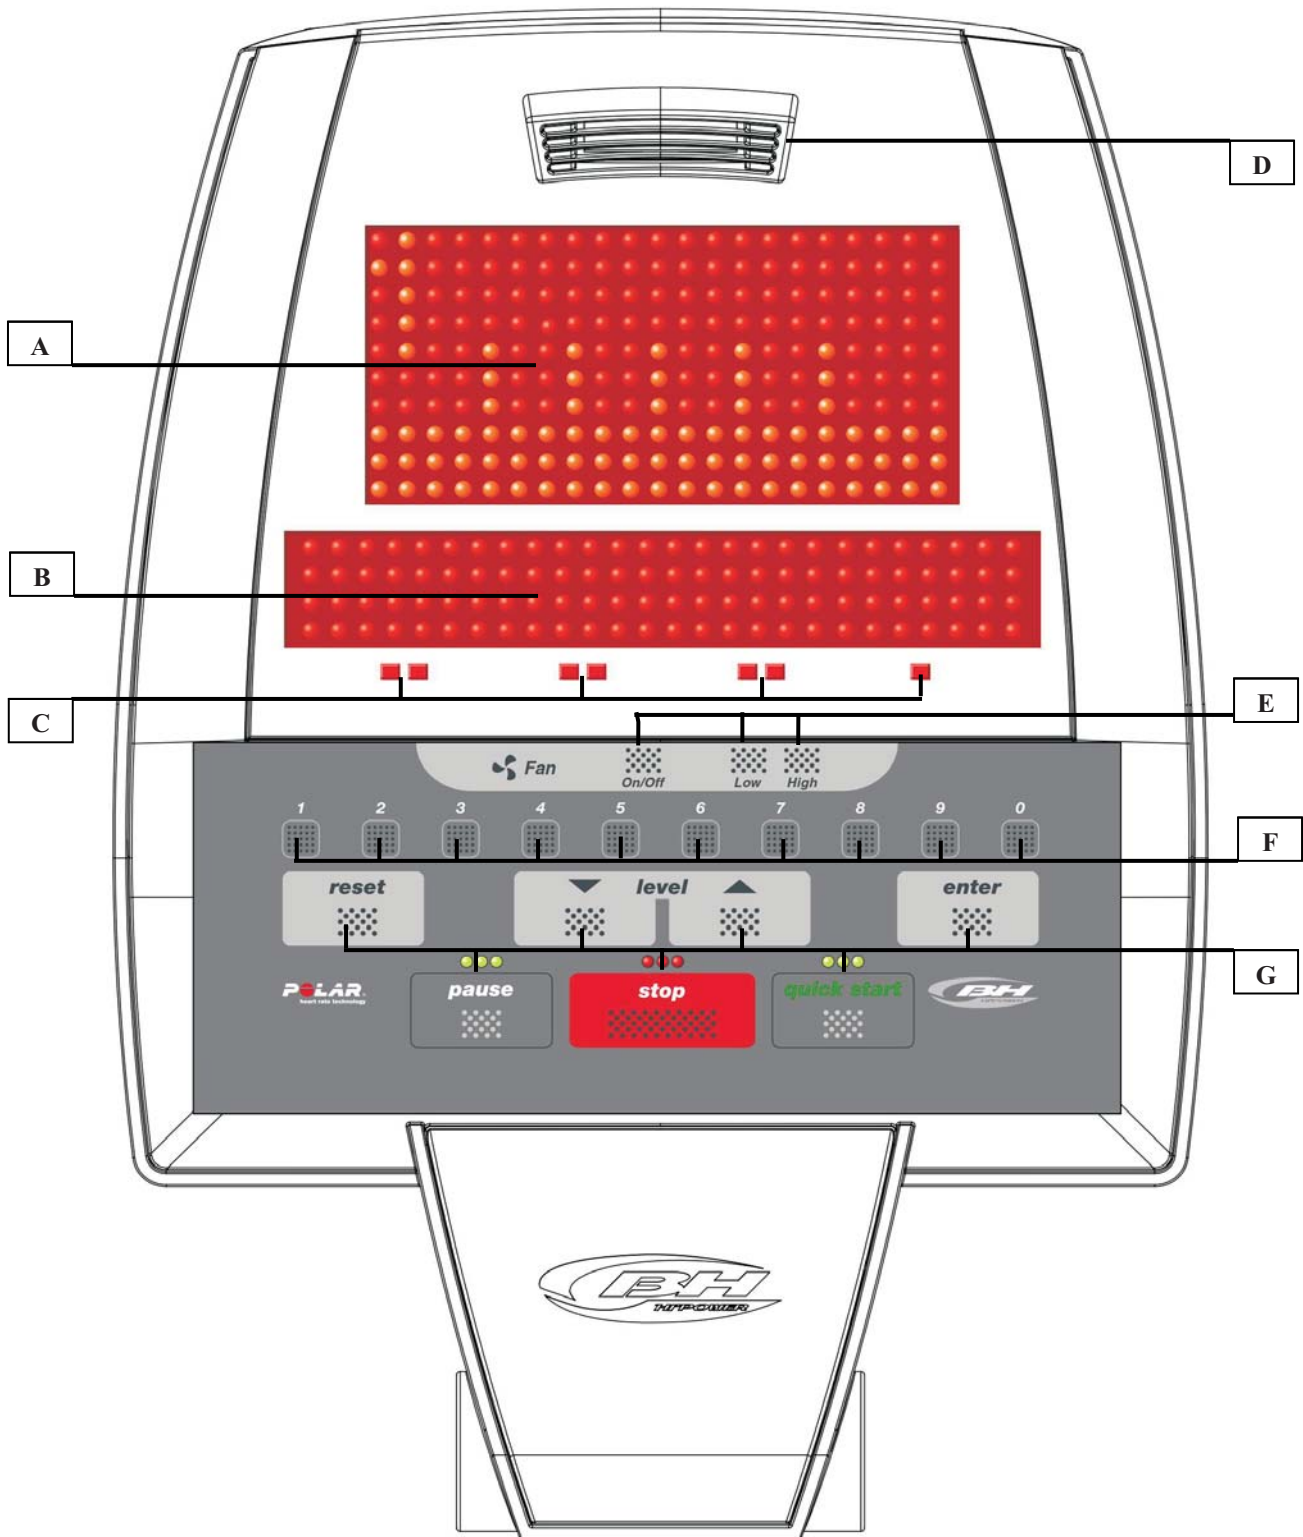

Fig. 12
The top area, **Fig. 12 (A – B – C)** for the **DISPLAY**
Once the monitor is on it will display the profile and the letter "M" for manual on the LED array (A) Figure 12, and the "WELCOME TO HI POWER" welcome message on the bottom alphanumeric screen (B).
Once the monitor is on it will display the profile and the letter "M" for manual on the LED array (A) Fig. 12, and the "WELCOME TO HI POWER" welcome message on the bottom alphanumeric screen (B) Fig. 12.
The flashing top LED array (A), Figure 12, will indicate the exertion level being produced during exercise. By pressing the **level▲** or **level▼** keys you can increase or decrease the exertion levels between ten different settings.
Every 10 seconds the alphanumeric screen (B), Figure 12, will switch between displayed readings for: Values relating to: Steps per minute; TIME ; CALORIES ; PULSE RATE and In the second sequence : STEPS; DISTANCE ; WATT and PULSE RATE.
The program can be interrupted by pressing the STOP key and the bottom alphanumeric screen (B), Figure 12, will display the average values for EXERCISE TIME ; DISTANCE COVERED; CALORIES CONSUMED during the exercise. These values will be displayed twice every five seconds